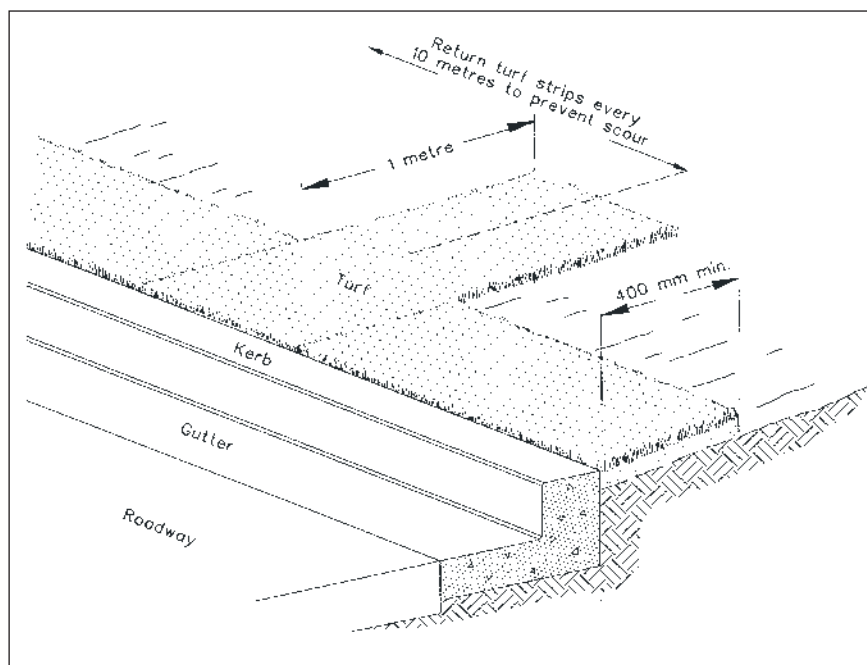

Figure 6A: Planted turf strip.
**Vegetation is the most effective soil stabiliser available on building and construction sites.** Keep groundcover along surface drainage areas and on steeper slopes. Retain significant areas of healthy grass down-slope of the worksite, these strips can be highly effective for filtering out coarse sediment. The flatter and wider the strips are, the more effective they become. Native vegetation along streams and waterways should be retained and protected from sediment by installing additional sediment control measures up-slope e.g. fibre rolls and sediment fences (see Fact Sheet 14). On exposed sites a 400 mm wide planted turf strip between the kerb and the footpath is a good last resort sediment control, filtering the runoff before it enters the stormwater system (see Figure 6A).
Text in this brochure has been obtained and modified from the “Do It Right On Site” brochure series, kindly provided by the Southern Sydney Regional Organisation of Councils. Figure 6A from Landcom 2004 “Soils & Construction Volume I Managing Urban Stormwater (4th edition)”.